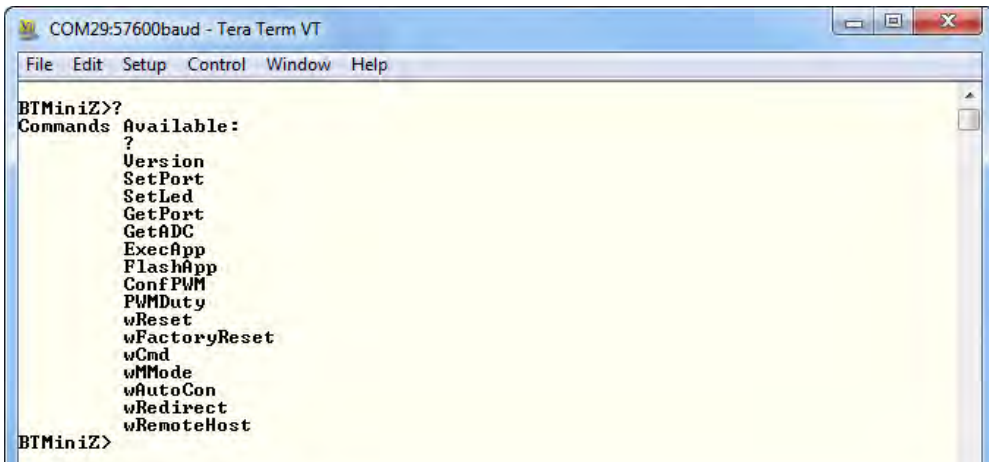

Figure 12. Mini-Z Shell Command Set
2. On each PC's keyboard, verify the Mini-Z Shell Library installation by entering the ? character to display a list of commands; see Figure 12.